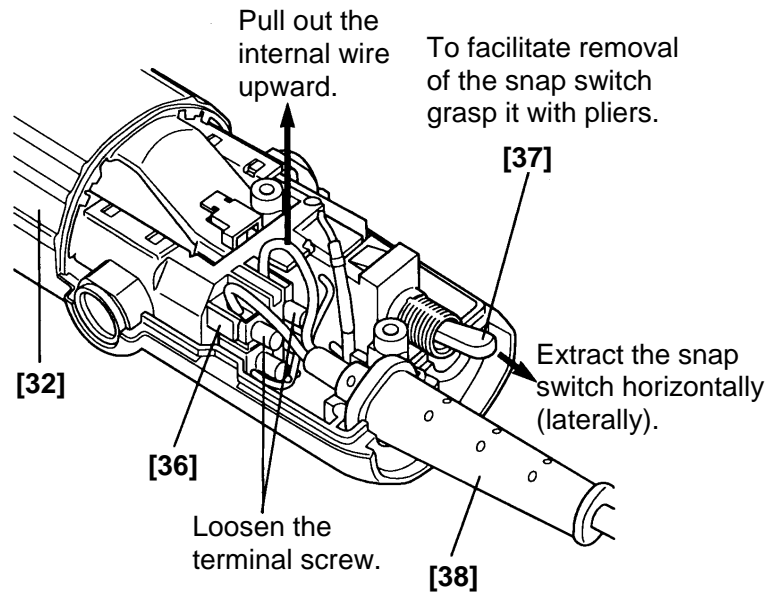

Fig. 4
- ① Loosen the D4 x 12 Tapping Screw (W/Flange) [41] and the D4 x 16 Tapping Screw (W/Flange) [40], and remove the Tail Cover [39].
- ② As illustrated in Fig. 4, loosen the terminal screw of the Wiring Block [36] and pull out the Cord [38].
- ③ Pull out the Switch [37] (snap switch) horizontally (laterally) to separate it from the Wiring Block [36], as illustrated in Fig. 4.
- ④ Finally, remove the Wiring Block [36] from the Housing [32].